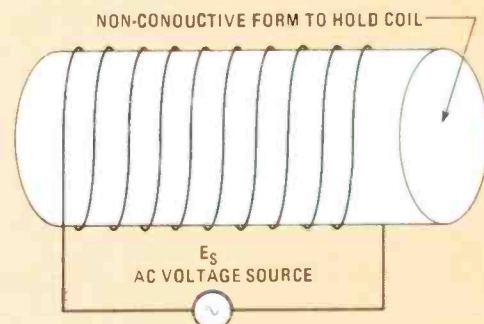

Fig. 1—An inductor is a coil of wire that offers opposition to a change in current.
1. Inductance is the opposition to a change of current offered by a component called an inductor. An inductor is basically a coil of wire, as shown in Figure 1. While the wire itself has a small value of resistance, its effect on current flow is small. It is the special effect produced by the alternating current (AC) in the coil that causes an opposition to current flow called reactance.